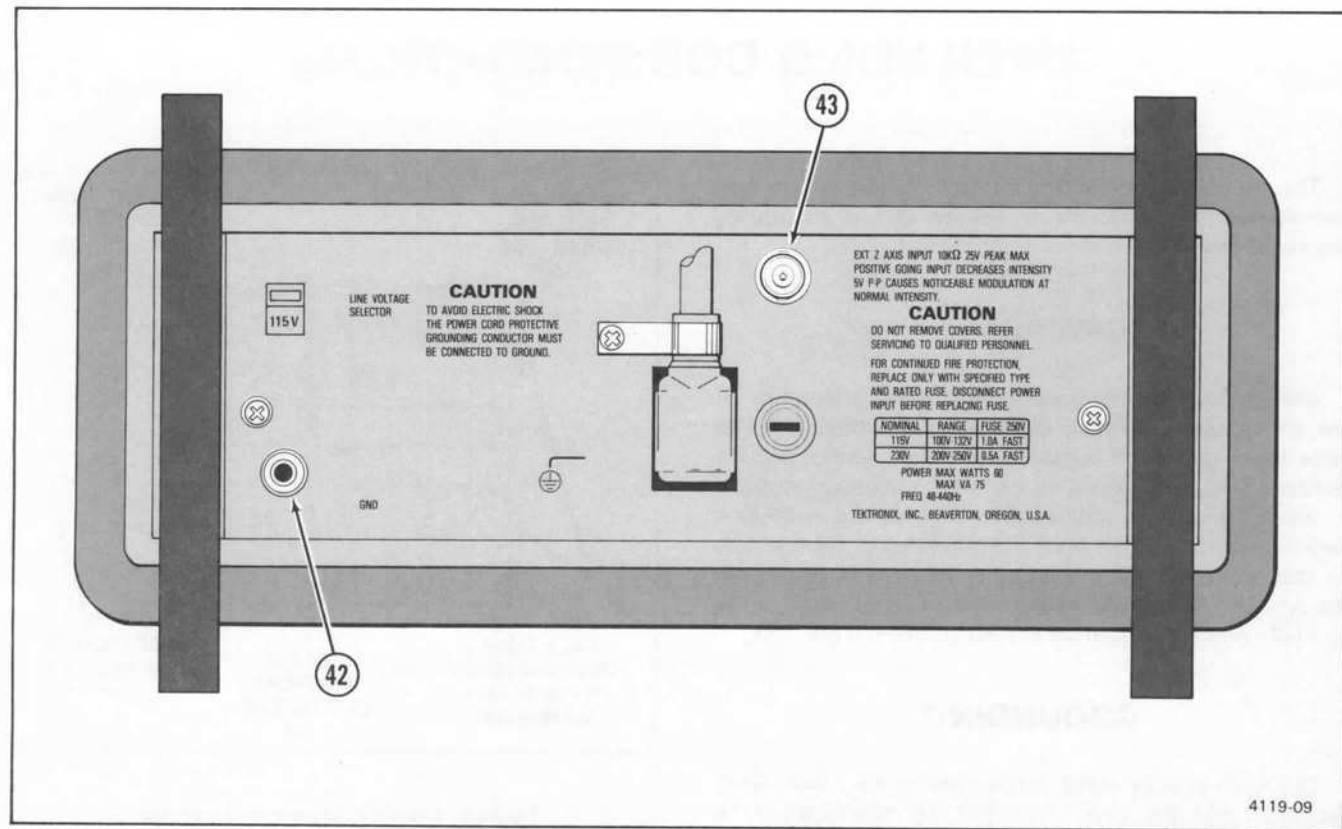

Figure 8. Rear-panel connectors.
Refer to Figure 8 for location of items 42 and 43.